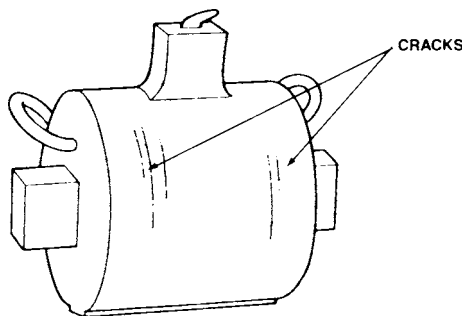

Figure 8.6
8.6 INSPECT COIL (21)
- A. Inspect the coil (21) for visible radial cracks. If any cracks are evident, replace coil. (See Figure 8.6).